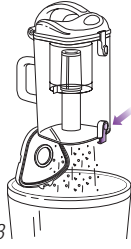

Fig. 23
- 2 Hold the dust cup over a trash receptacle and press the bottom door release button. (Fig. 23) Tap gently to empty contents. Press the door shut again until it clicks.